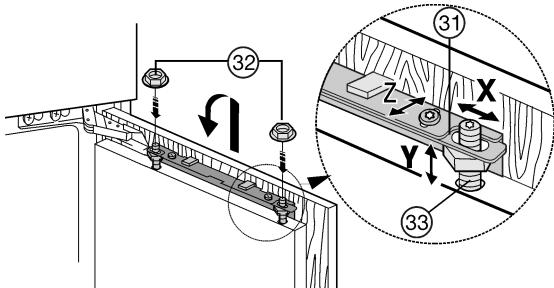

Fig. 20
- ▶ Attach the unit door to the adjusting bolts Fig. 20 (33) and loosely screw the locknuts Fig. 20 (32) onto the adjusting bolts.
- ▶ Align unit door in height and lateral inclination: Adjust the adjusting bolts Fig. 20 (33) using a screwdriver.
- ▶ Tighten the lock nuts Fig. 20 (32).